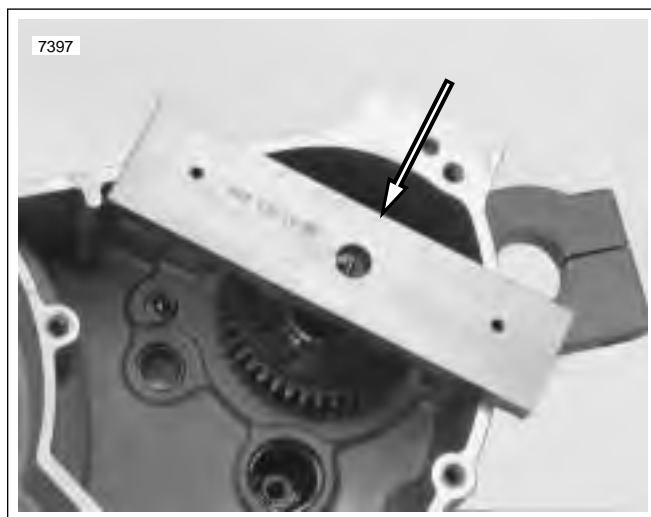

Figure 6-38. Mounting Cross Plate (Part No. B-43983)
4. See Figure 6-38. Place cross plate on crankcase as shown.